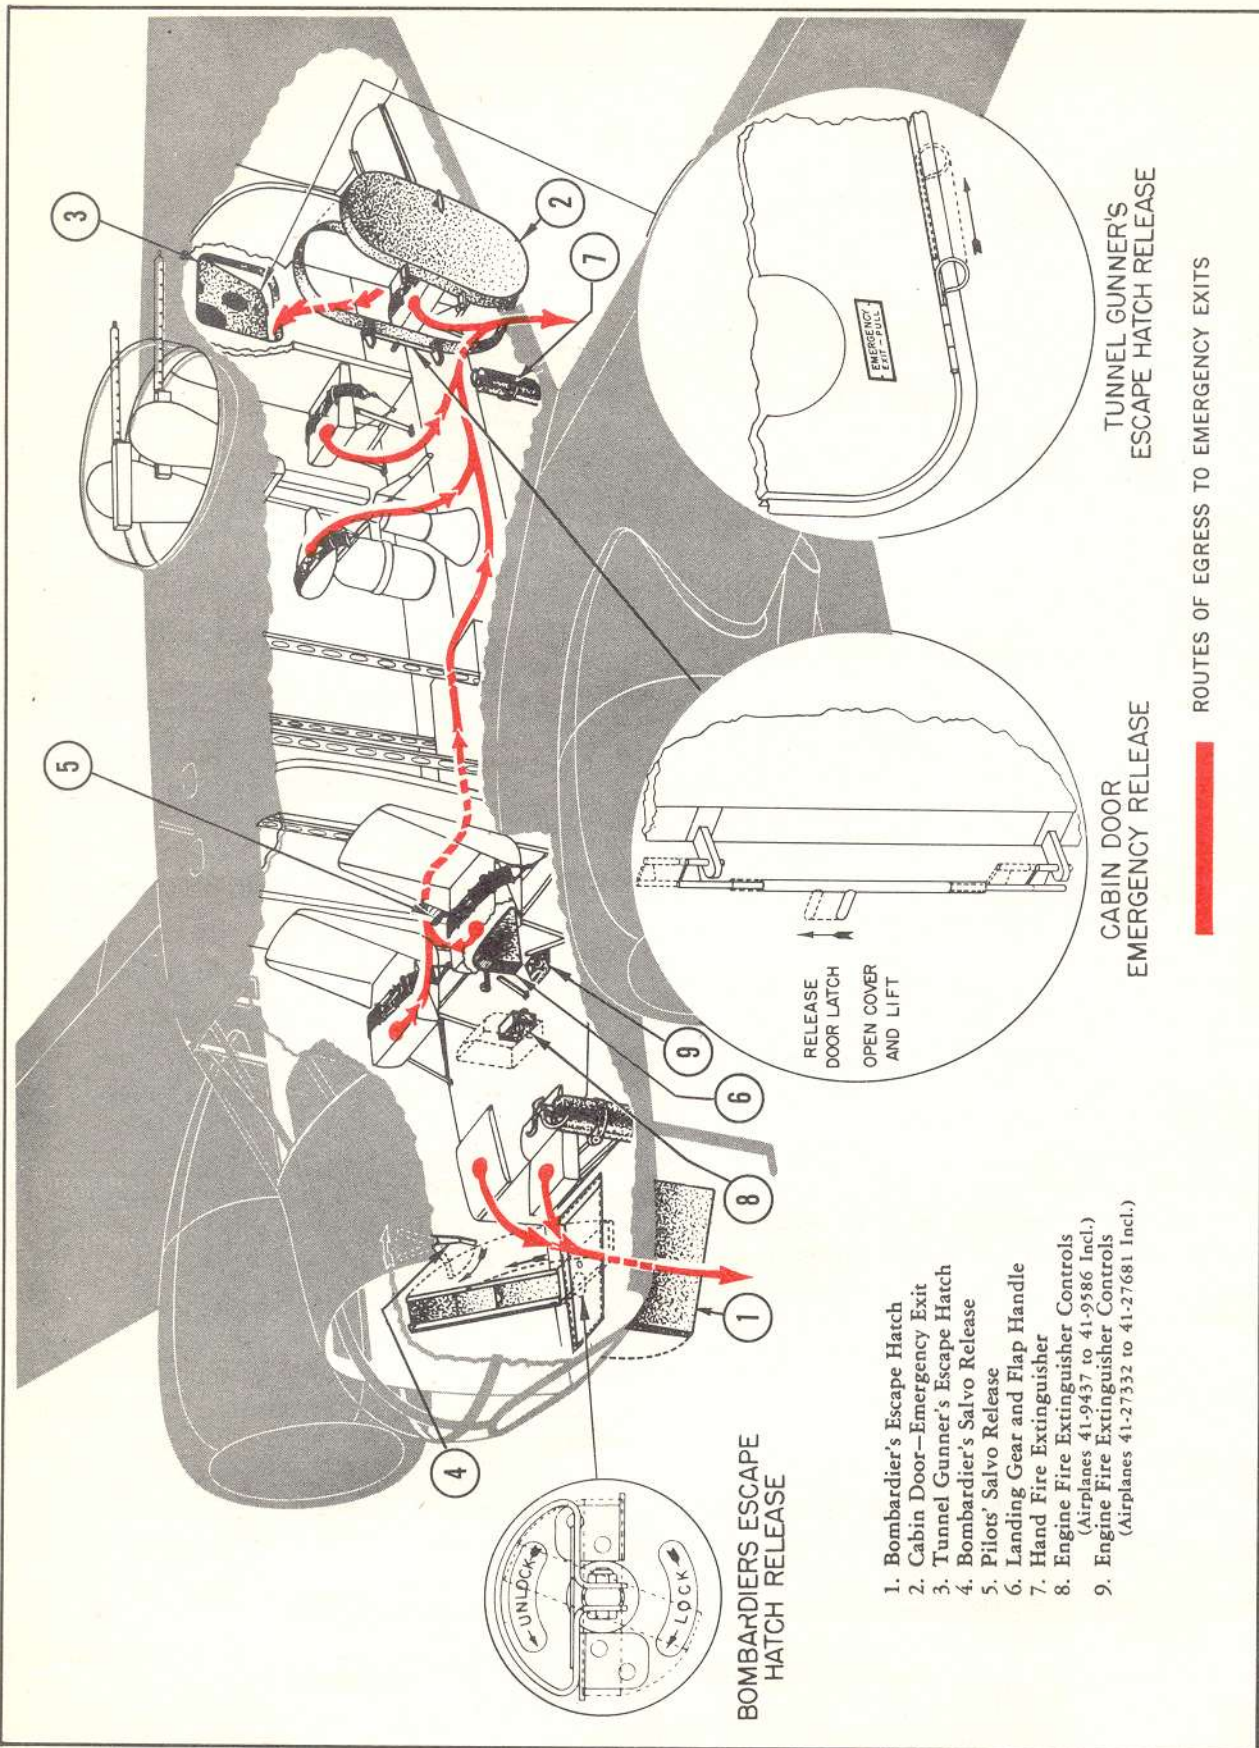

Figure 37—Emergency Exits and Equipment
The airplane has three emergency exits. (See figure 37.)
(1) Turn selector valve handle to desired engine.
(2) Pull out release handle. (Pull firmly, as far as possible.)
b. **THE HAND FIRE EXTINGUISHER** is located on left side of cabin just forward of cabin door. (See figure 37.) To operate:
(1) Flip open fastener and pull extinguisher from supporting bracket.
(2) Turn handle and pump.
(1) GENERAL.—The bombardier's compartment is located in the glass-enclosed nose of the airplane and contains bomb-release controls and instruments. Provision is made for seating the student bombardier and bombardier instructor. Access to the compartment is made from pilots' compartment. To make entrance easier, copilot's rudder pedals may be removed and stowed on the side wall, just forward of copilot. An emergency exit from bombardier's compartment may be made by lifting the safety bar across the door in the floor of the compartment and turning the handle in the door. (See figure 37.)